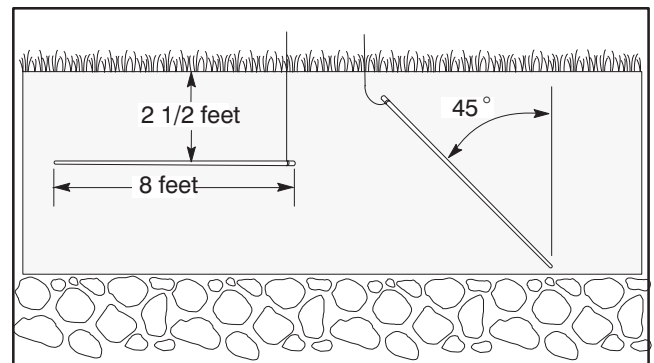

Figure 22
1. A minimum length of 8 feet of the grounding conductor must be in contact with the soil (Fig. 22).
2. The grounding conductor must be driven to a depth of 8 feet minimum except when a rock bottom is found. The grounding conductor can then be driven at an oblique angle not to exceed 45 degrees, or buried in a trench that is at least 2.5 feet deep (Fig. 22).